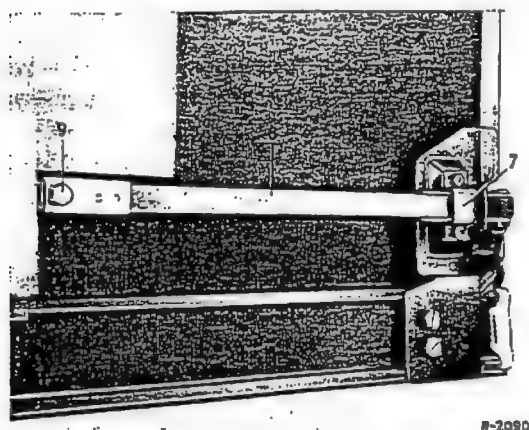

Fig. 78-1/4
Put shims under the clamps (7) (Fig. 78-1/4).